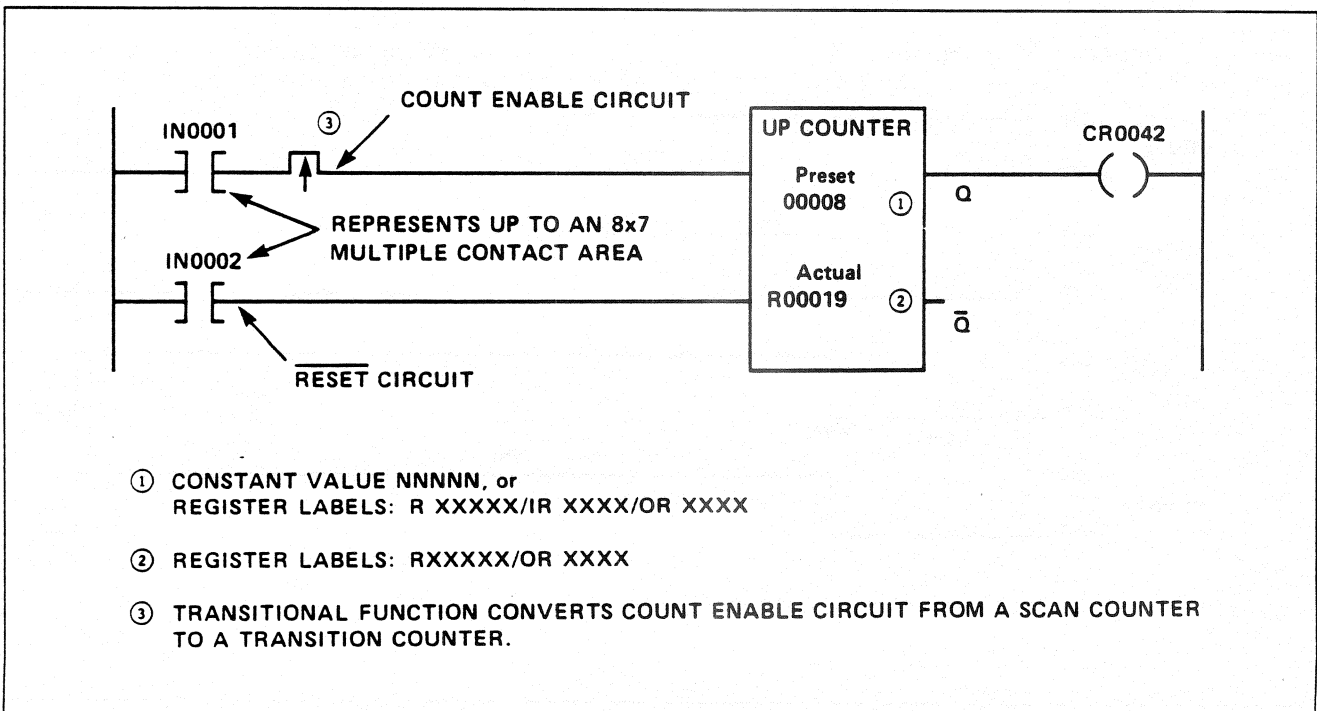

Figure CNT-1. Up Counter Circuit (Typical)
The Up Counter function counts up from zero to a user-selected number, which can be a maximum of 32,767. See Figure CNT-1 and note the following:
3. The count enable circuit conducts, thereby incrementing the value in the Actual Register by one for each scan of the ladder diagram. If a false-to-true transition is desired to enable the count (the more normal case), install a Transitional function (007) in the counting circuit as shown in Figure CNT-1.